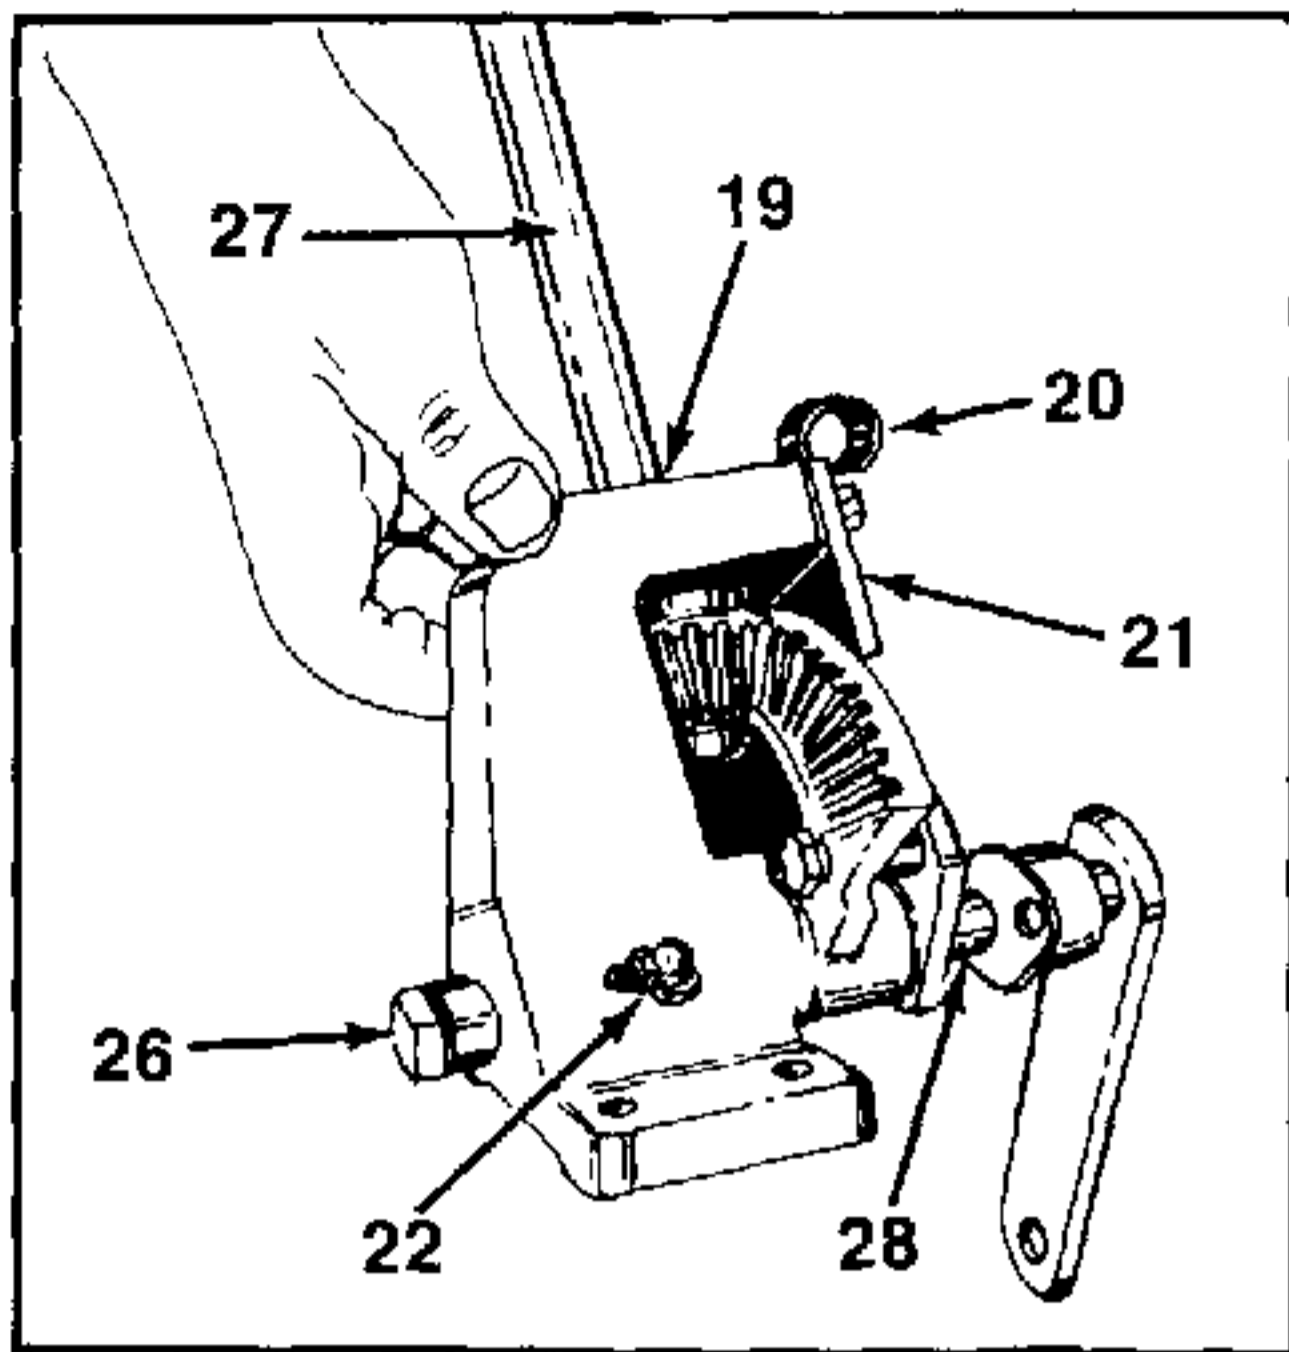

FIGURE 10.
13. Once you have removed the steering assembly from the tractor, inspect parts for wear or damage and replace if necessary. See figures 10, 11 and 12.